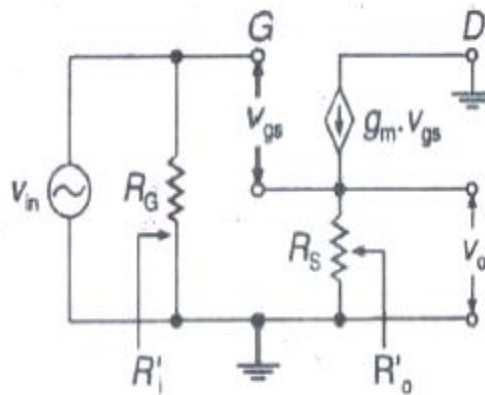

Fig. 5.6 A.C. equivalent Circuit of a common drain amplifier
- Figure 5.6 shows the a.c. equivalent circuit of a common drain amplifier.